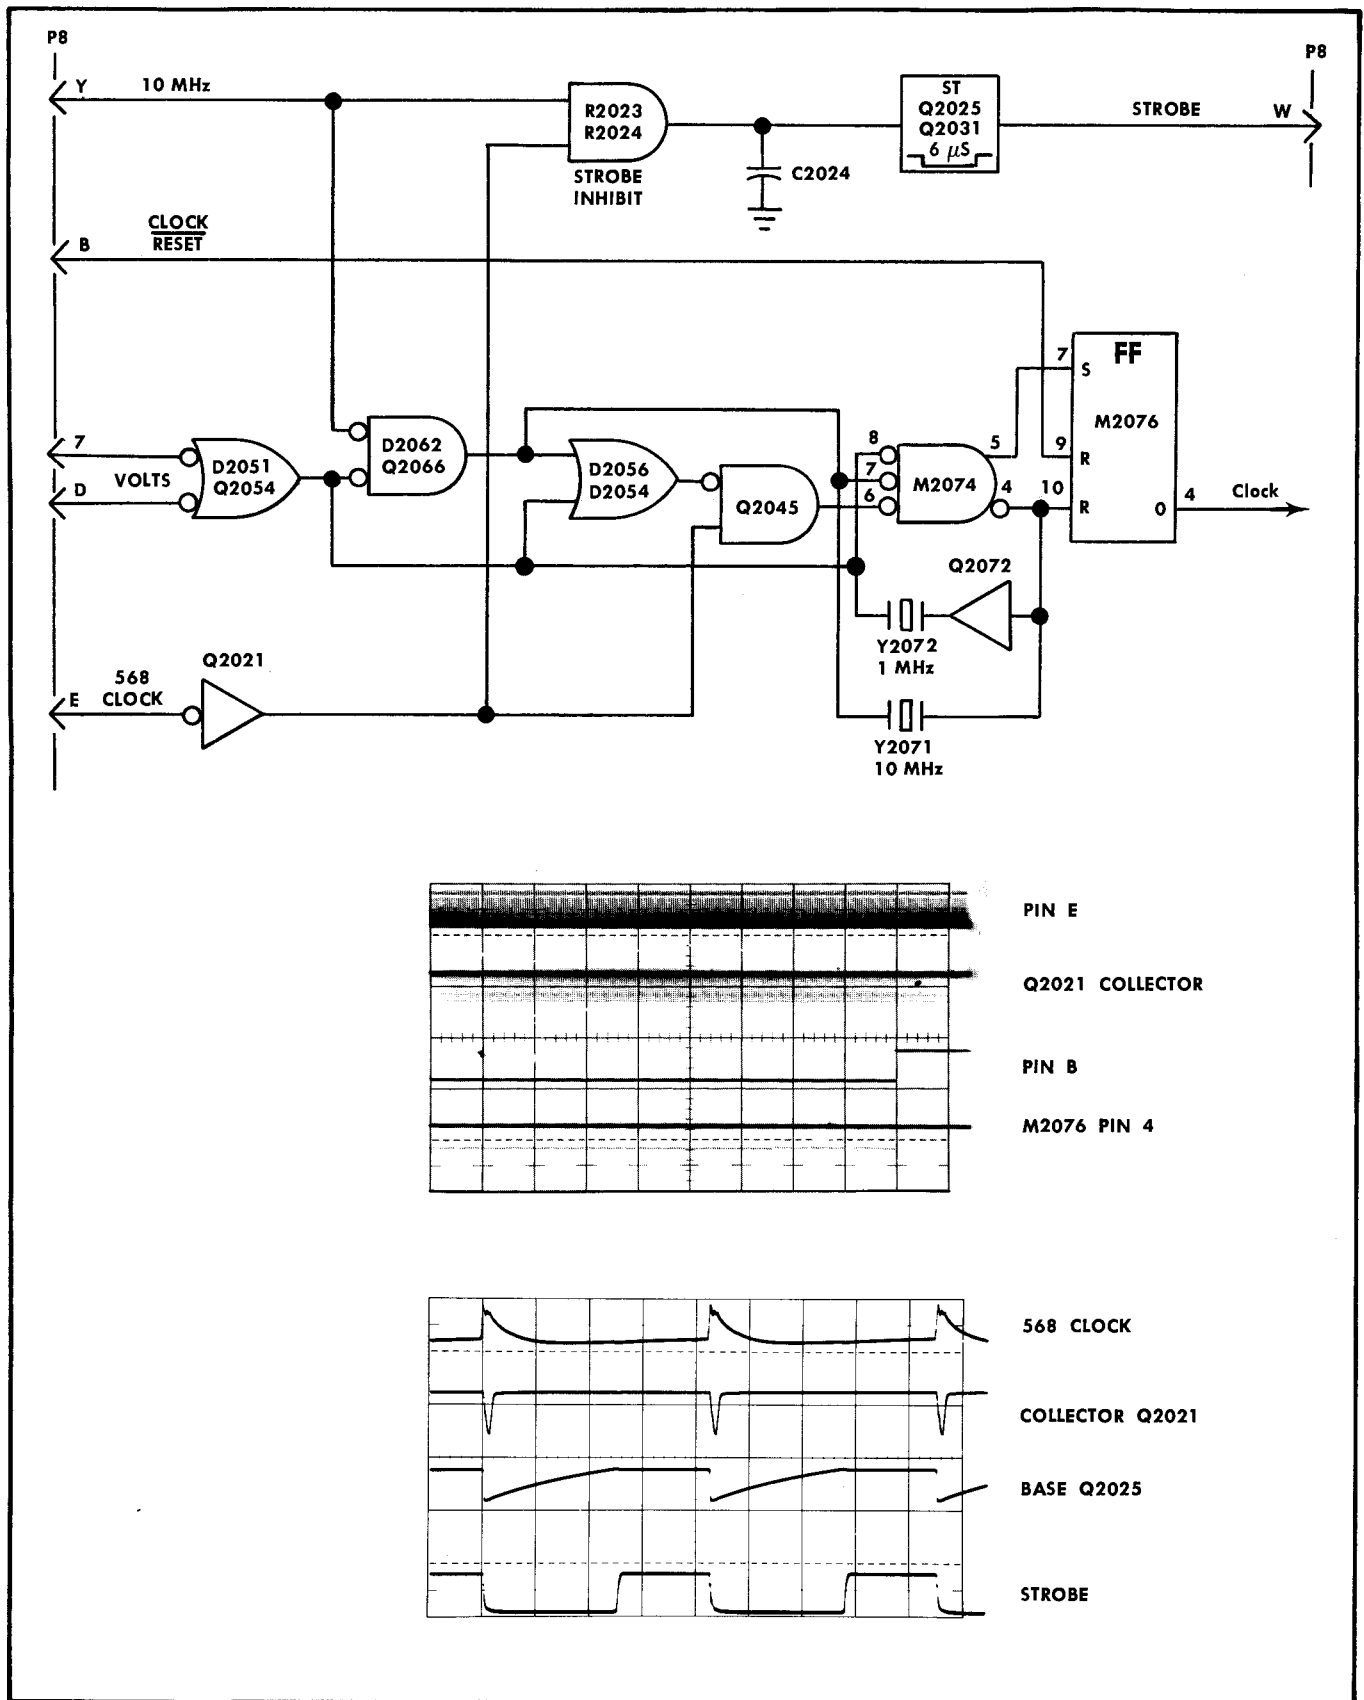

Fig. 4-33. STROBE and CLOCK pulse generation (clock models 1 and 2).
**Time Measurement, Equivalent Time Mode.** In this mode of operation, P8 pins 7, D, and Y are left floating (see Fig. 4-33). The output of transistor Q2054 is low, as is the output of the NAND gate consisting of diode D2062 and transistor Q2066. The two low outputs disable both the os-